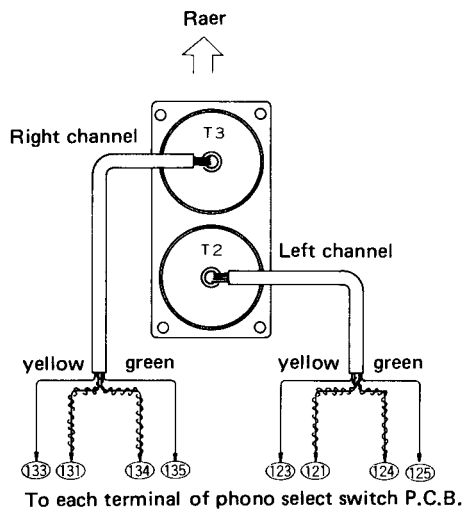

Fig. 7
6. For the wiring of booster transformer, refer to Fig. 7.
Refer to Fig. 7 on page 5 for amorphous MC transformer's connection.